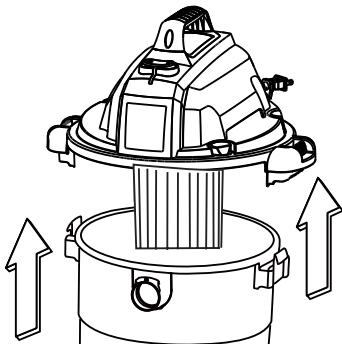

Fig. 14
22. Disconnect the hose 13 from the vacuum. Undo the latches 3 and remove the power head 2 from the collection tank. Fig 14. Place power head on soft, clean surface upside down. Clear all dirt or debris from the collection tank and hose. Place power head back onto the collection tank and secure latches.